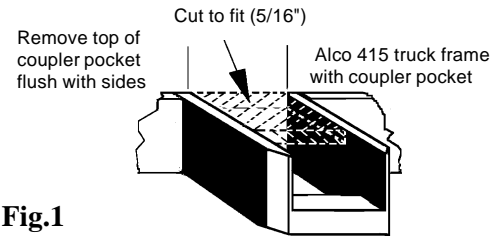

Fig.1
1. Remove loco shell and trucks from chassis. Remove existing coupler assemblies from both trucks. Modify the coupler pocket by cutting away entire inside top of pocket flush with sides as shown in Fig.1.